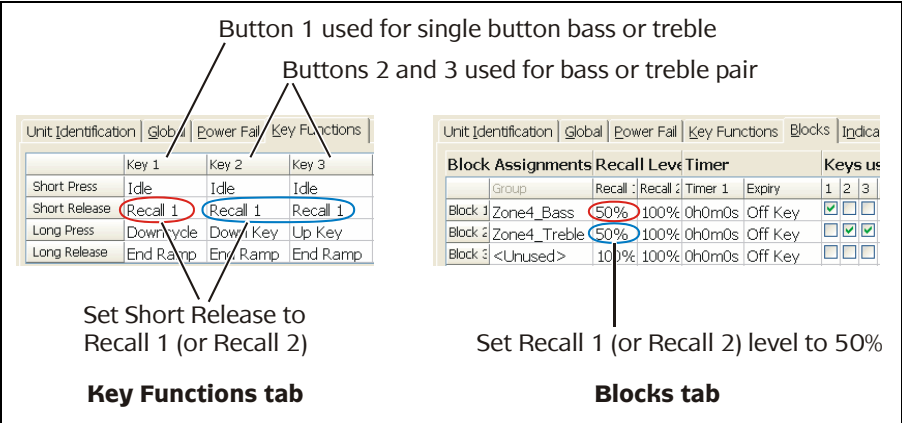

Figure 28 – Setting short release recall levels for bass and treble buttons
- Dimmer for a single, or Dimmer Down/Dimmer Up for a pair of Bass or Treble buttons. Use a short release recall level of 50% so that a quick-press sets the bass or treble to mid range. Do this via the Key Function and Blocks tabs (refer to Figure 28).